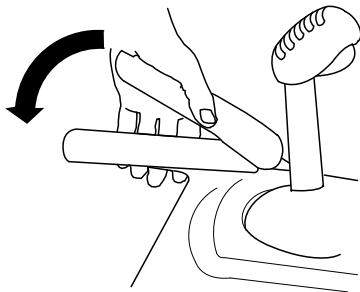

Figure 17
1. To engage the traction drive, squeeze the left (traction) lever to the handgrip (Figure 17).